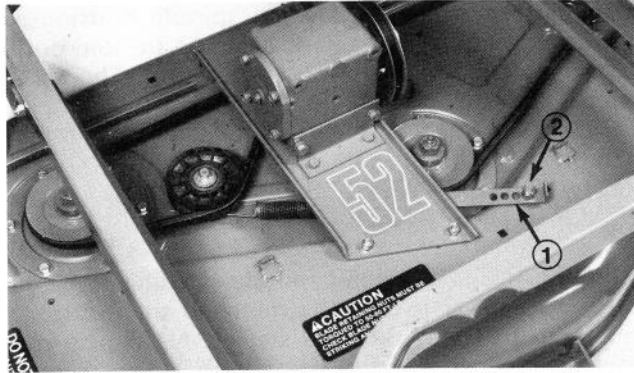

Figure 18
2. Remove nut securing spring anchor to capscrew in housing (Fig. 18). Lift anchor off capscrew and pull to increase belt tension. Correct belt tension is achieved when approximately 30-40 lbs. of force is applied to spring.
2. Remove nut securing spring anchor to capscrew in housing (Fig. 18). Lift anchor off capscrew and allow belt to relax.